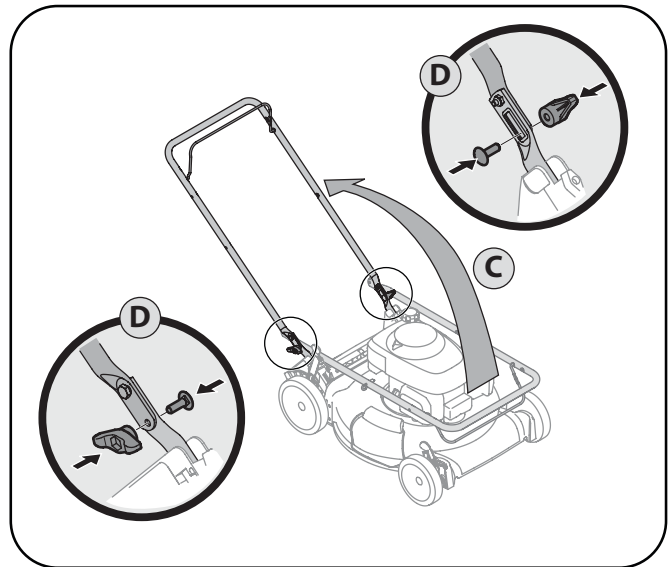

Figure 3-2
- c. While stabilizing mower so it doesn't move, pivot upper handle up as shown in Fig. 3-2. Do not crimp cable while lifting the handle up.
- d. Reattach wing nuts and carriage bolts removed earlier into lower holes of handle as shown in Fig. 3-2 inset.